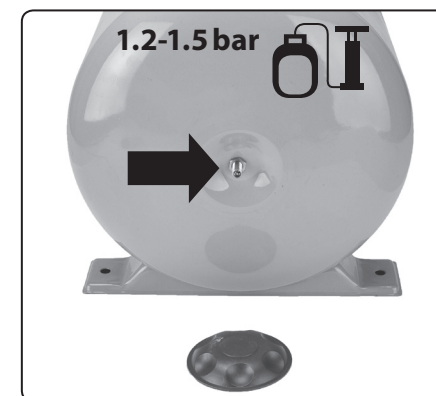

Fig. 1
- 1) Screw off the air valve cover located on the rear part of the water tank as shown in fig. 1 and using a tyre pump or car compressor, pressurise the water tank to a pressure of 1.2-1.5 bar - not more (there is a membrane inside the water tank). Check the pressure using a tyre pressure meter (manometer) connected to the air fill valve of the water tank.